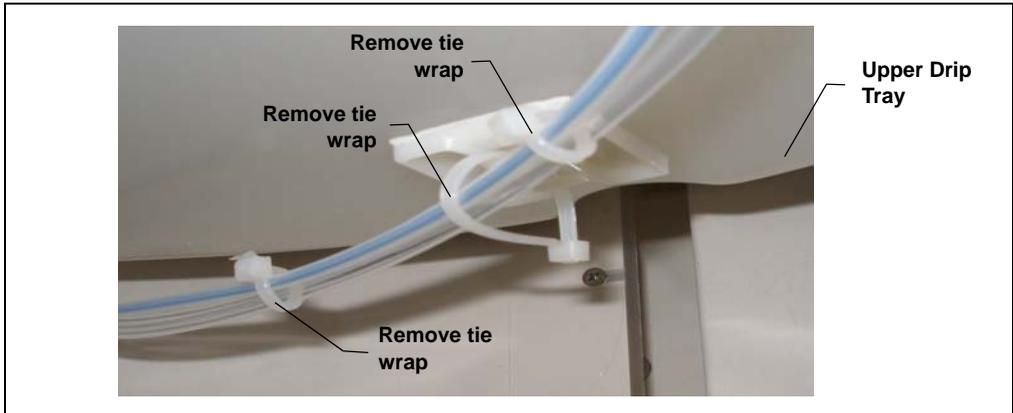

Figure 5-26. Removing Tie Wraps (Typical Installation Points)
8. Note the three pieces of tubing routed underneath the upper drip tray (see Figure 5-26). Cut off the tie wraps that hold the tubing together. Then, cut off the tie wrap that attaches all of this tubing to the upper drip tray.
19. Install an additional tie wrap to attach the pieces of tubing to the upper drip tray. Leave some slack in this tie wrap (see Figure 5-26).